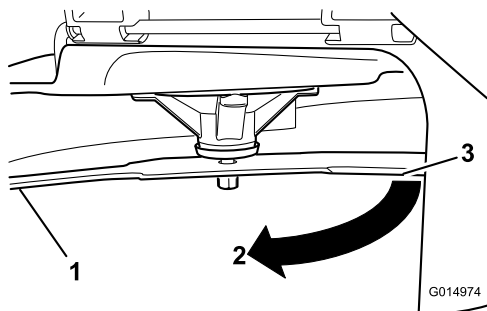

**Figure 59**
3. Measured distance between blade and the surface (A)
4. Rotate the same blade 180 degrees so that the opposing cutting edge is now in the same position (Figure 59).